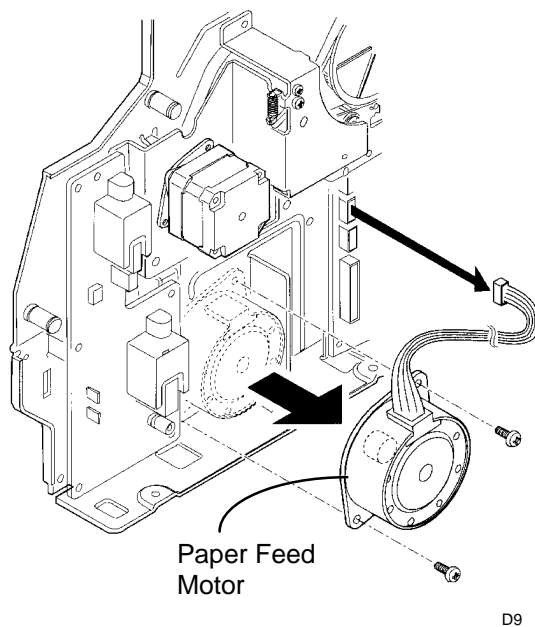

Figure 2. Removing the Paper Feed Motor
3. (Figure 2): Remove the screws, disconnect the connector and remove the Paper Feed Motor.